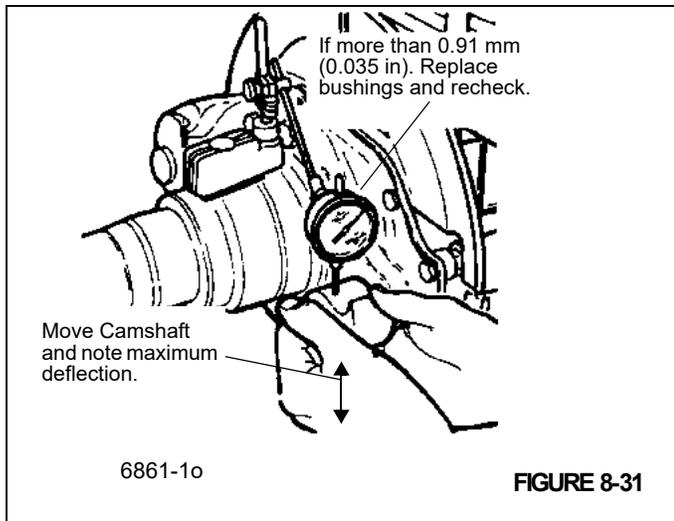

FIGURE 8-31
10. Each time the brake shoes are removed, check the camshaft radial play as outlined in Step 10a thru 10e below and (Figure 8-31). Also, refer to Repair/Replacement of Camshaft, page 8-38 in this Section.